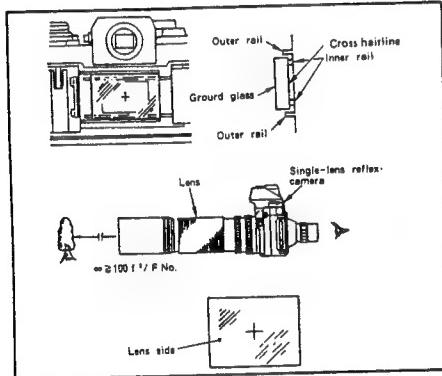

Fig. II-60
- (3) Shoot a scene at infinity. Then, enlarge the image on the ground glass surface with a magnifier to check the focusing state.
- \* Note: For the distance for infinity, refer to the Fig. II-60.
- (4) After the above checking, remove the ground glass once, and mark the cross-hairline on the ground glass surface. Then, attach it to the camera again.